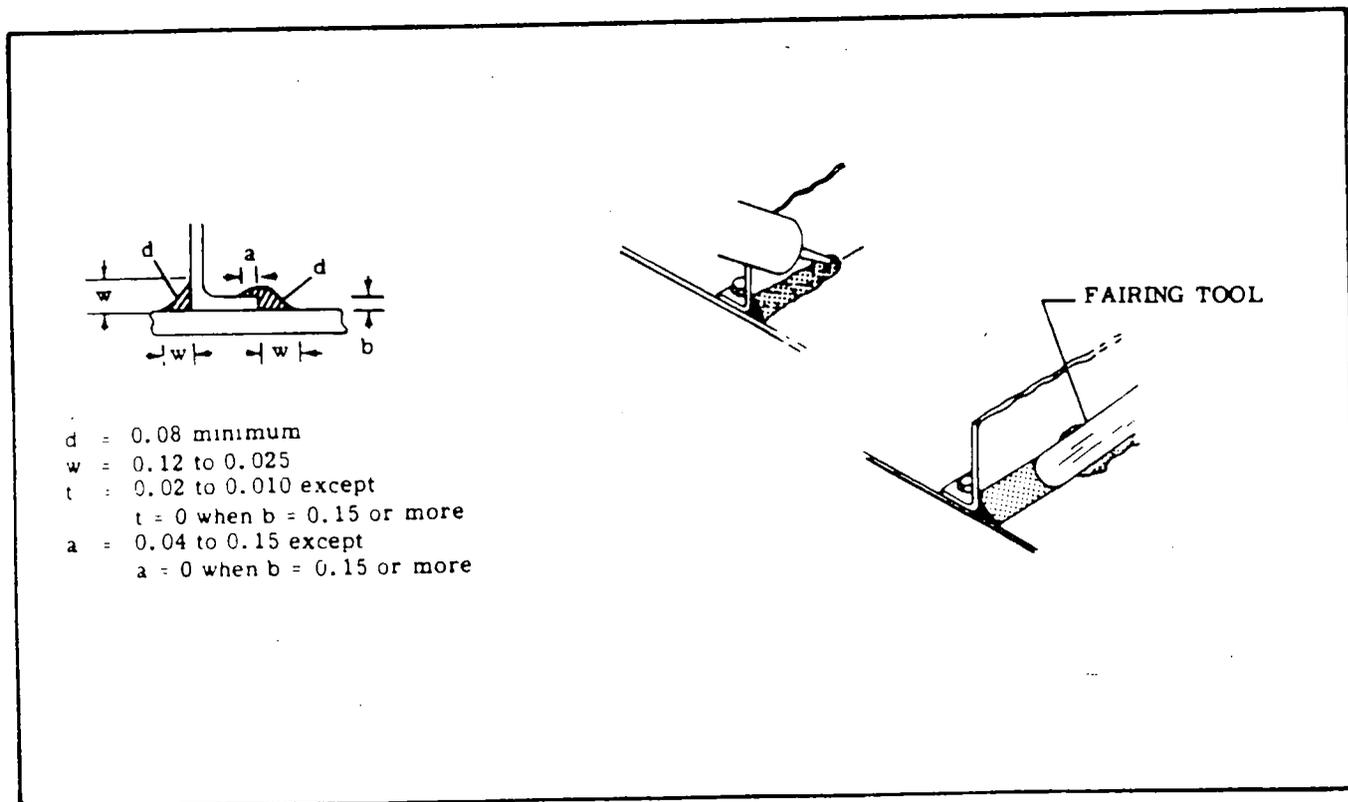

Figure 18-7 Fillet Sealing
- Fillet shapes and dimensions should conform to dimensions given in figure 18-7 as near as possible.